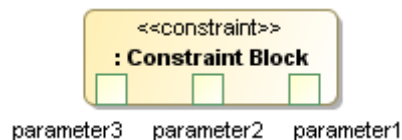

Figure 127 -- Constraint Property with its Constraint Parameters
3. Select constraint parameters to be shown on the constraint property symbol. The selected constraint parameters will be displayed as small square boxes (Figure 127).